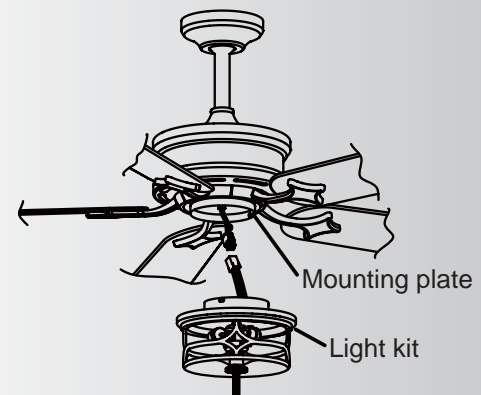

Fig. 22
Step 6. Loosen the 3 screws on the mounting plate. Tuck the connections neatly into the switch housing. Align the key hole on the switch housing with the screws on the mounting plate. Turn light fixture until it locks in place at the narrow end of the key holes. Tighten all 3 screws previously loosened. (Fig. 22)